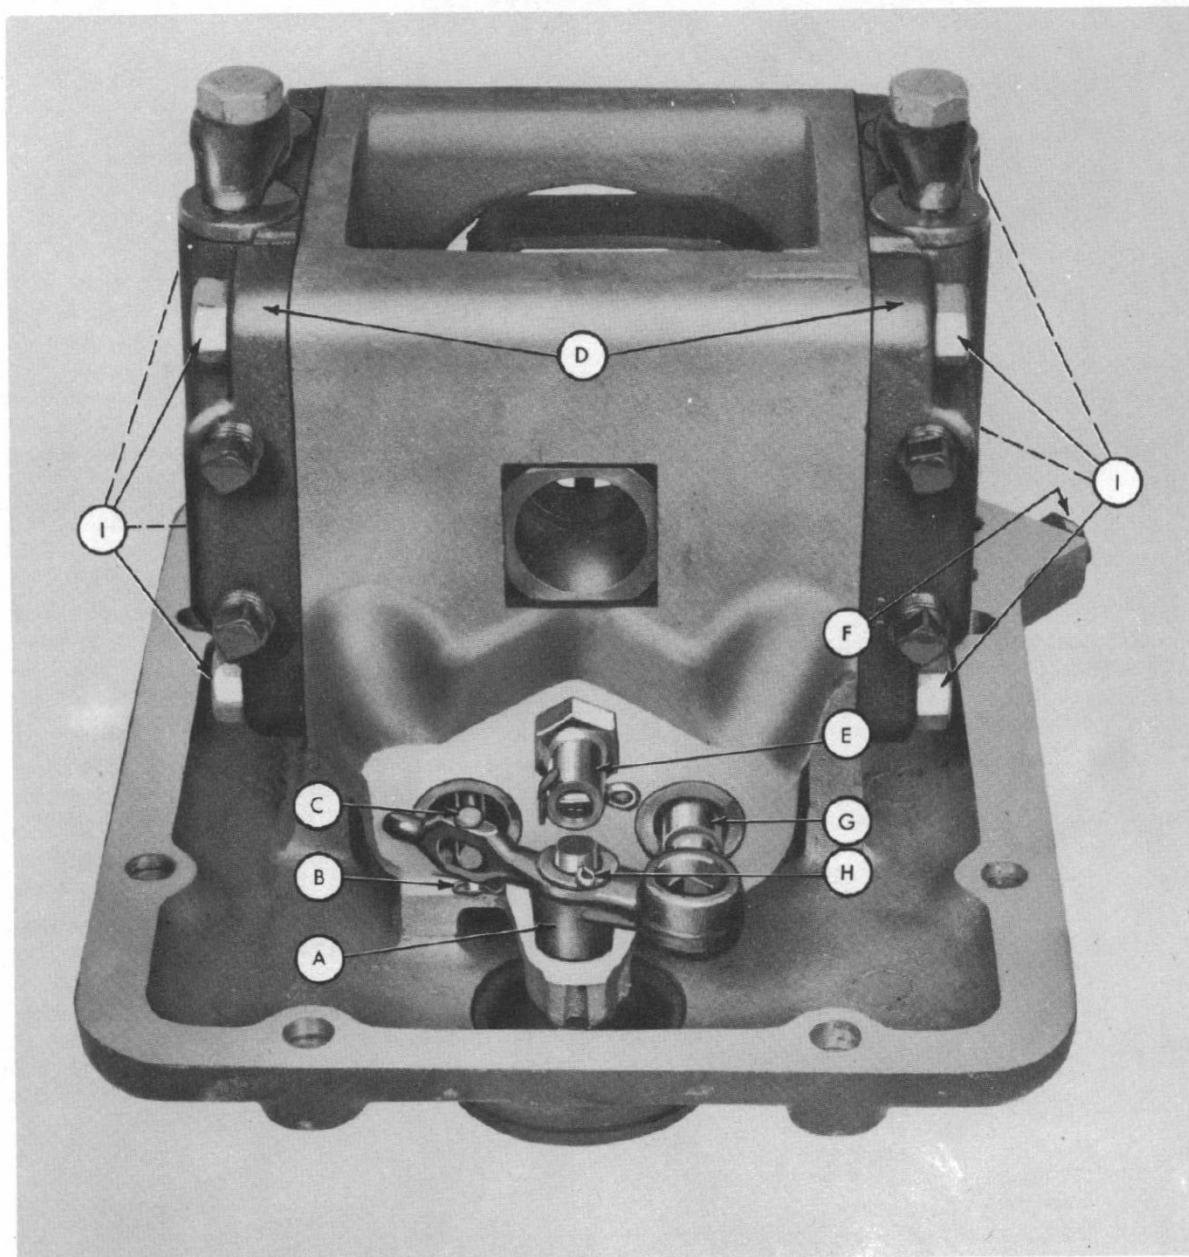

Fig. 1
- Step 1—Remove the safety valve and check valve (E-Figure 1).
- Step 2—Remove the cotter pin (B-Figure 1) and clevis pin (C-Figure 1) which secures the exhaust valve to the control valve lever.
- Step 3—Remove the cotter pin and washer (H-Figure 1) from the control valve lever post.
- Step 4—Remove the control valve lever (A-Figure 1).
CAUTION: Hold the spring loaded intake control valve (G-Figure 1) in the pump base with one hand while removing the control valve lever to prevent it from being forced out by the spring.